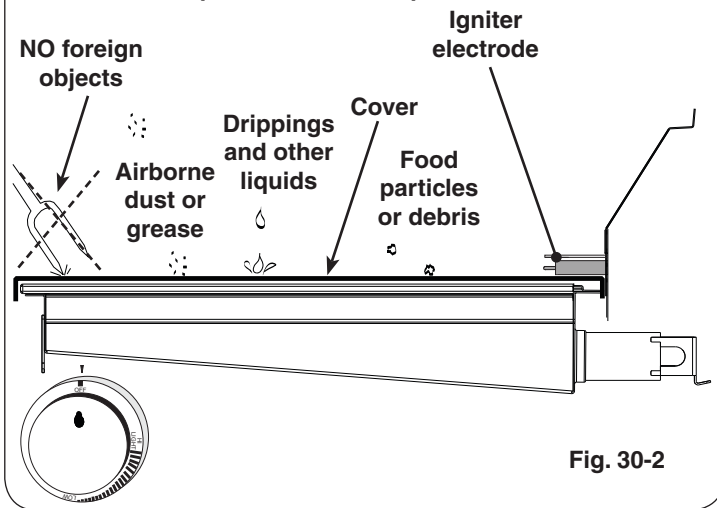

Fig. 30-2
- When not in use, **always** cover the infrared burner with the stainless-steel cover. This protects the burner from drippings (from other cooking), water, airborne particles, and foreign objects (Fig. 30-2).
- Do not strike or scrape the ceramic portion of the burner as it may chip, crack, or break (Fig. 30-2).